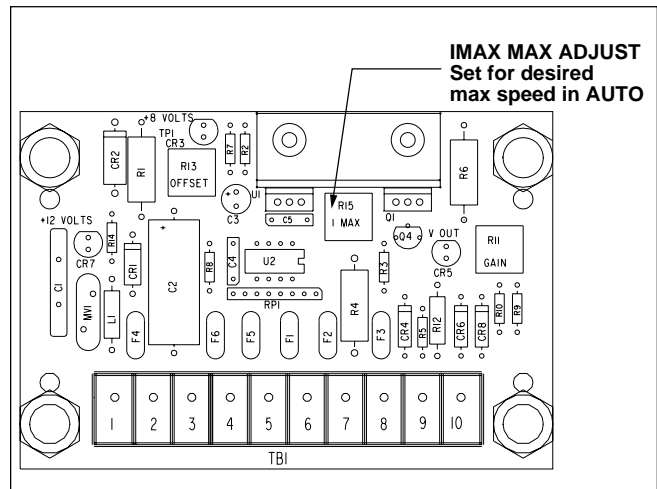

Figure 15
- 7) Using a tachometer on the end of the auger shaft, adjust the maximum speed set point on the feeder control card located inside the feed control box. The normal setting is 135 to 150 RPM (Figure 15).
**Automatic :** Signal from the Feeder Control box at either end of the screed. Speed variable via sensor signal which is limited by the pile height setting. This signal goes through the auto interlock relay contact on the conveyor circuit card in the main junction box on the tractor. This relay activates whenever the brakes are released and the control handle is pushed forward. Maximum output is adjustable via IMAX pot on feeder control board (Figure 15).